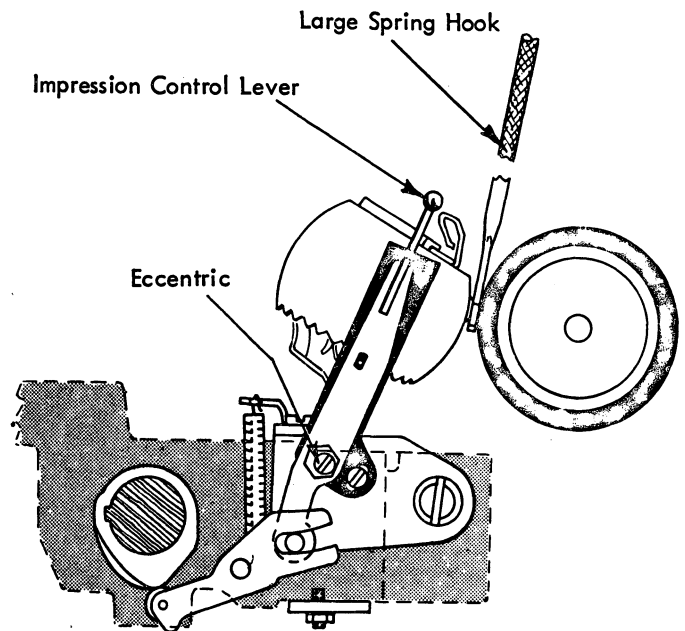

FIGURE 142.15 Free Flight
- b. **Free Flight** - Set the impression control lever at 5 and the copy control lever at 4 and hand-cycle the machine until the print cam follower is resting on the high point of the print cam. At this point, there should be .035" of free flight between the platen and the center of a half-cycled "home" character. Adjust the eccentric on the impression control lever for this clearance (Fig. 142.15). Keep the high part of the eccentric toward the front of the machine.
- b. **Free Flight** - Set the impression control lever at 4 and the copy control lever all the way forward and hand-cycle the machine until the print cam follower roller is resting on the high point of the cam. At this point .035" of free flight should exist between the platen and the center of the "home" character. Adjust the eccentric on the impression control lever to obtain this condition (Fig. 142.15). Keep the high part of the eccentric forward.